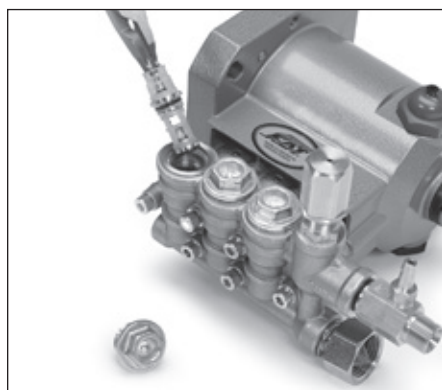

Figure 1
1. Use a M19 hex tool to remove three (3) valve plugs.
3. Use a reverse pliers to remove stacked valve assembly from each valve chamber (See Figure 1).